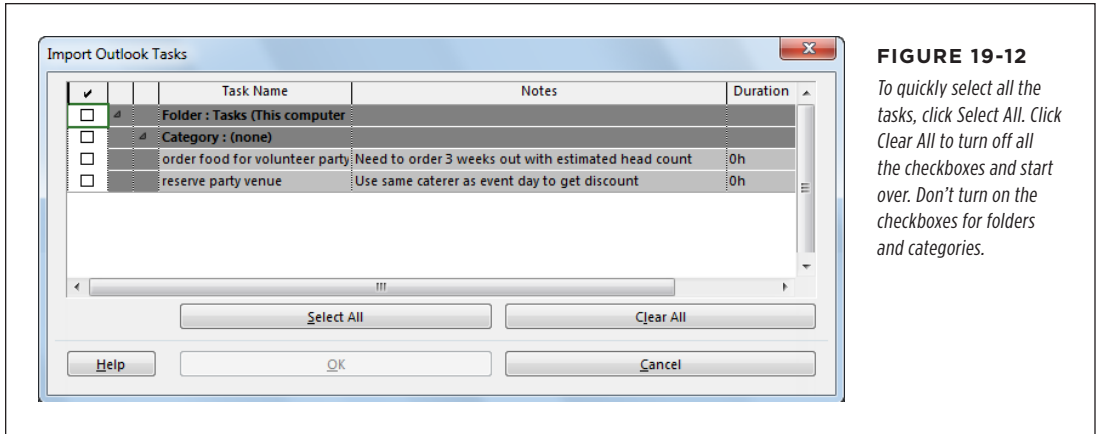

FIGURE 19-12
2. **Turn on the checkbox for each task you want to import, as shown in Figure 19-12.**